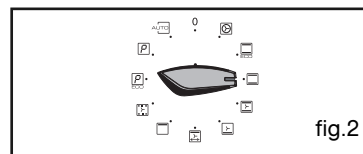

fig.2
• **Multi-purpose dish (fig.2)**
Set the time by pressing the + or - buttons (continued pressure on the button runs through the numbers quickly) (fig.2).
Press buttons “” and “” at the same time for a few seconds (fig.2), then release them when the time of day begins to flash. The sound of beeping shows that you can set it now.
Example: position  (fig.2).
The display flashes 0:00 to tell you that you can now set it (fig.2).
Example: end cooking at 1:00 pm (fig.2).